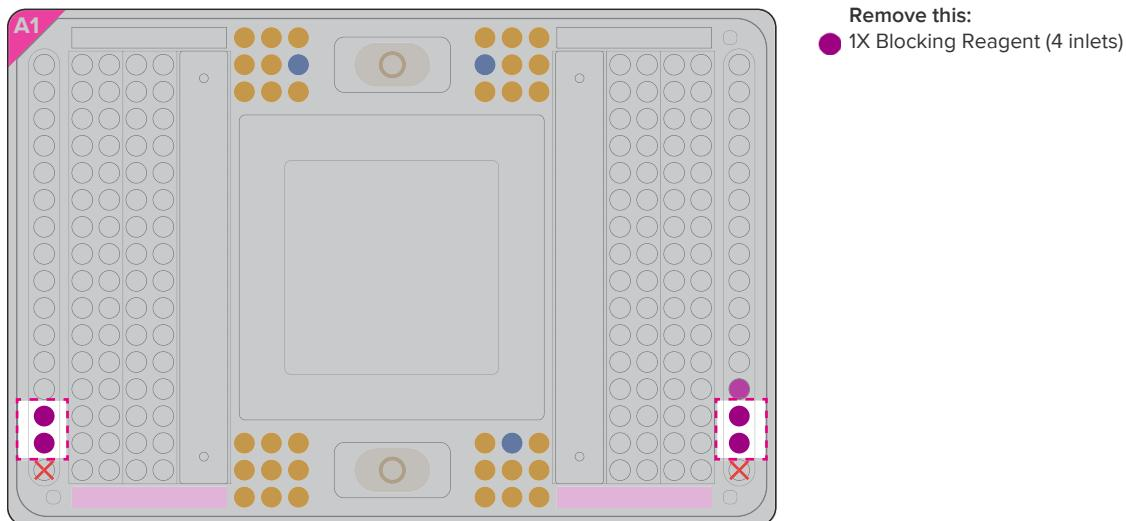
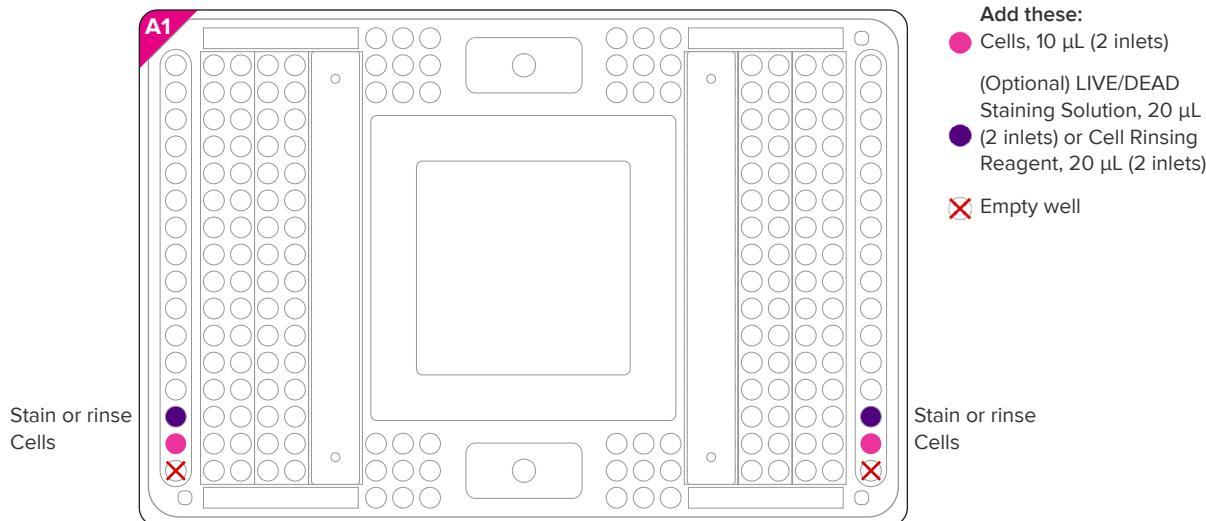

Figure 5. HT IFC remove before loading pipetting map
Figure 6. HT IFC loading pipetting map
**NOTE** The volume of cell mix may be scaled depending on volume of cells available. You will load 10  $\mu$ L of cell mix into each cell inlet in the HT IFC (see Figure 6).
Before you continue, make sure to remove the reagents as shown in Figure 5.
Before you continue, make sure to remove the reagents as shown in Figure 5, and then proceed to load the reagents as shown in Figure 6.